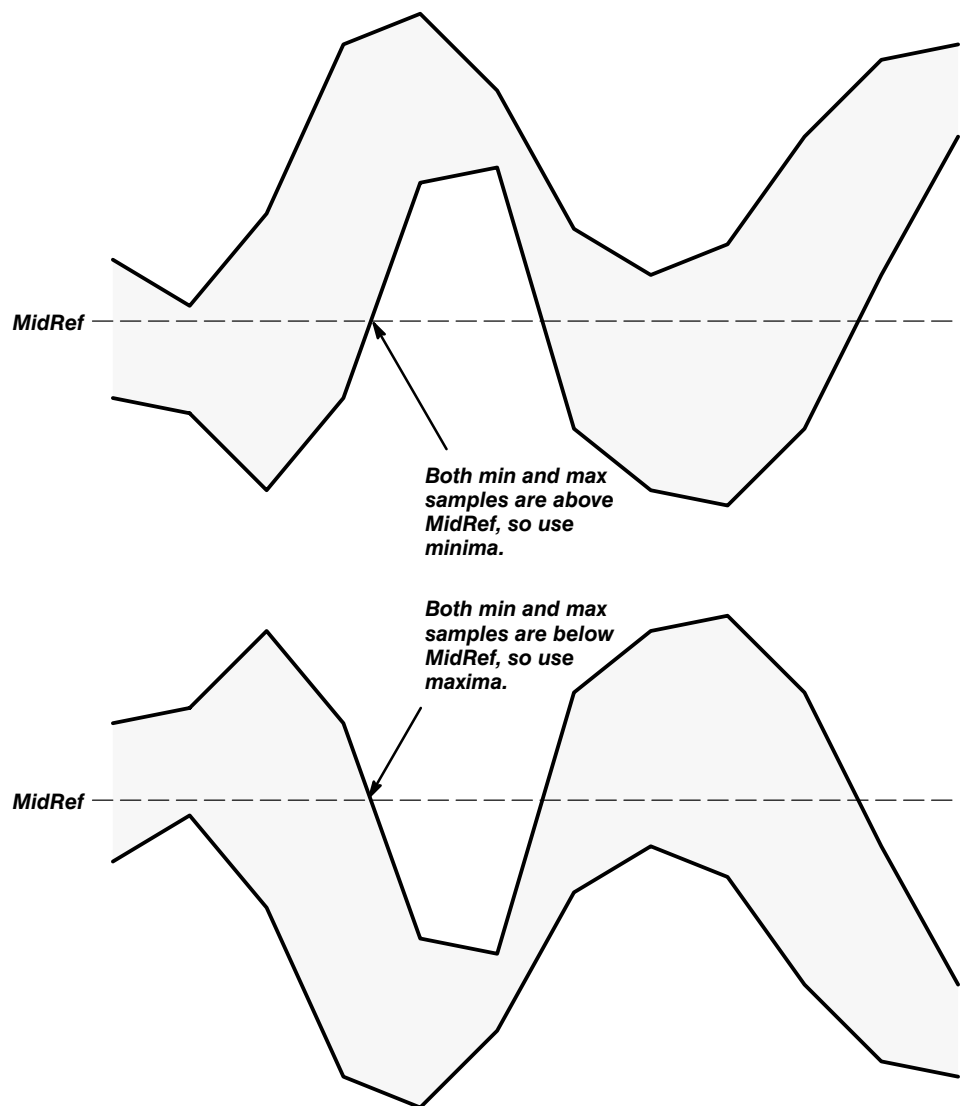

Figure C-4: Choosing Minima or Maxima to Use for Envelope Measurements
- If all pairs straddle *MidRef*, use maxima. See Figure C-4.